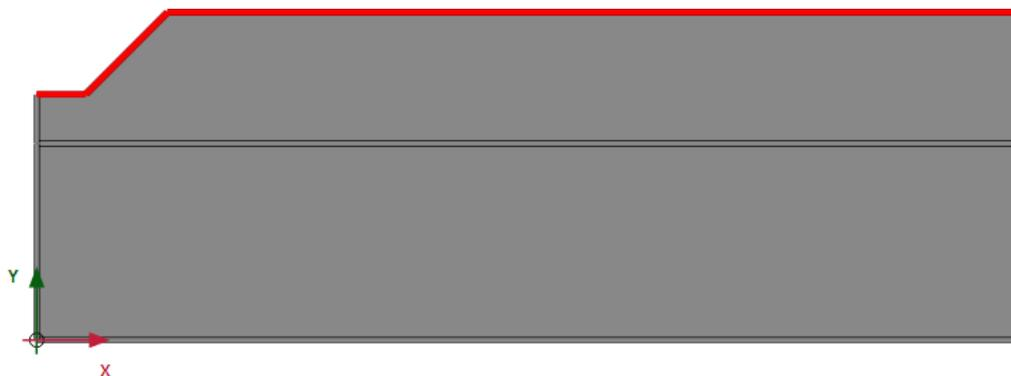

Figure 165: The upper boundary of the model
2. Multi-select the line segments composing the upper boundary of the model as shown in Figure 165 (on page 189).